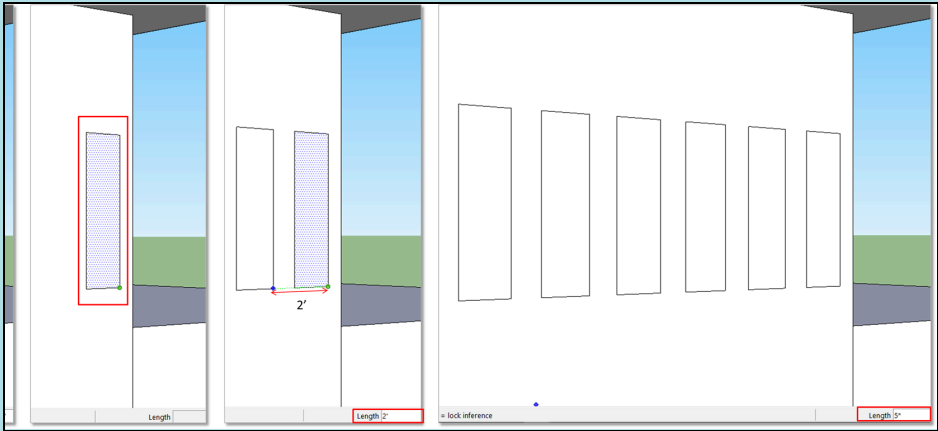

Figure 2.9. The SketchUp process for creating an array of repeating windows.
6. Type an asterisk followed by the number of repetitions (e.g. *5 for five windows) to create an array of equally spaced groups (Figure 2.9).